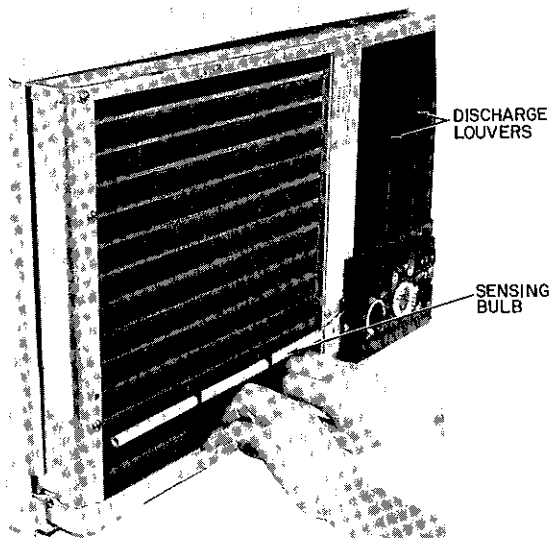

Fig. 29 — Sliding Chassis Out of Casing
- e Remove sensing bulb from coil face. See Fig 29.
- c Slide chassis out of casing See Fig 29
- a Remove chassis from casing See Chassis Instructions and Fig 29
a Remove chassis from casing. Refer to Chassis instructions and Fig. 29.
j To remove discharge louvers, flex and remove pin from bottom hole. Turn louver and pivot bottom upward to remove from top hole. See Fig. 29 and 34.
- a Remove chassis from casing. See Chassis instructions and Fig 29